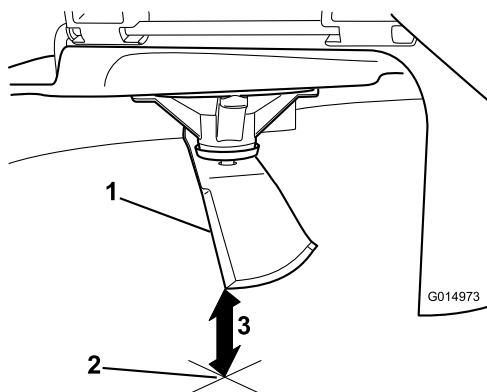

Figure 66
5. Measure from the tip of the blade to the flat surface (Figure 66).